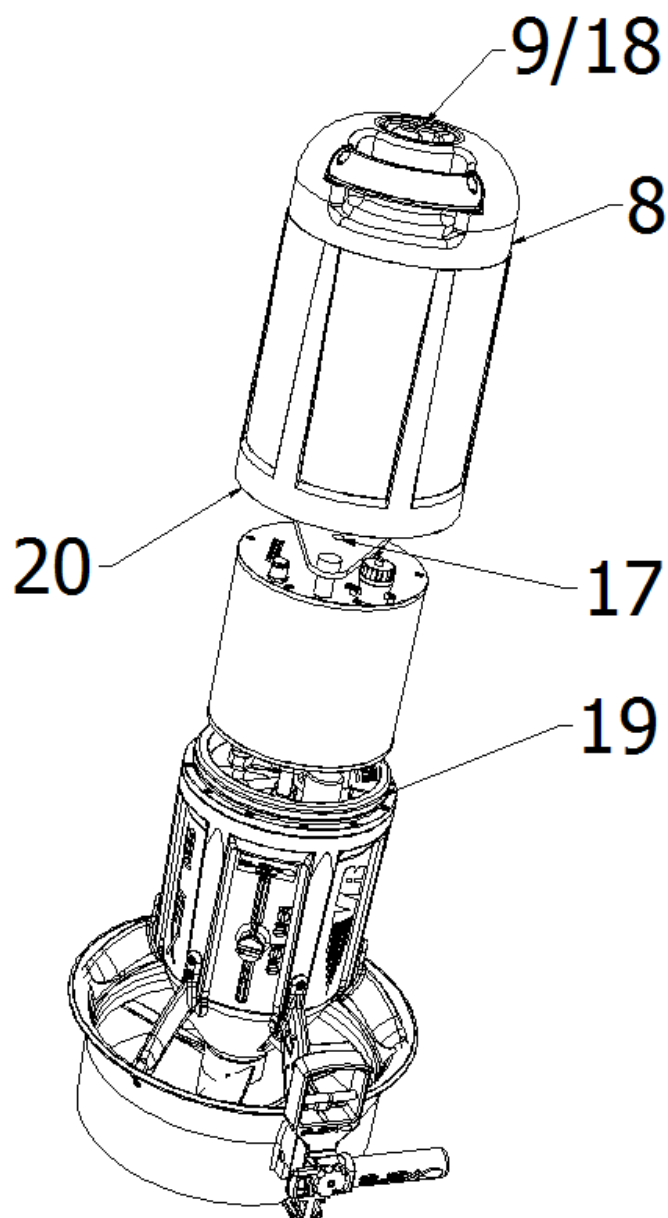

Fig.5
Always with the SCOOTER in vertical position, carefully check that the closing OR gasket (19) (fig.5) is inserted in its seat, cleaned and adequately lubricated with petroleum jelly. Also check the cleanliness of the body seat (20), if necessary, pass a clean microfibre cloth to remove dust or sand. Insert the nosecone (8 - Fig.6) matching the screw (18) with the hole (17). Turn the handwheel (9) clockwise until it is completely closed without tightening too much using just the force of two fingers.